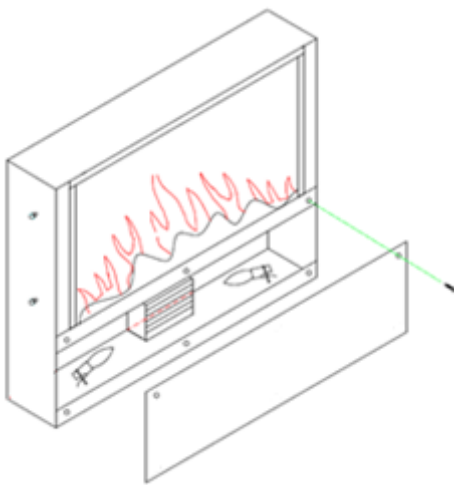

Fig. 7
3. Open the base cover panel by unscrewing two (2) screws on it. These need to be removed to allow the cover to slide down. **Figure 7**